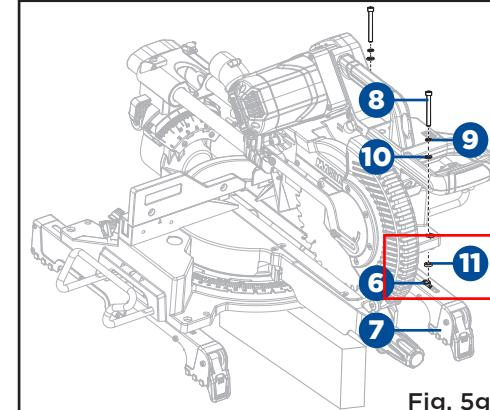

Fig. 5g
- Place the second saw mounting bracket (7) underneath the other side of the saw, aligning the mounting holes on the mitre saw base with the nut (6) inside the top of bracket. Install hex bolts M6 x 55 mm (8) as previously described (Fig. 5g).